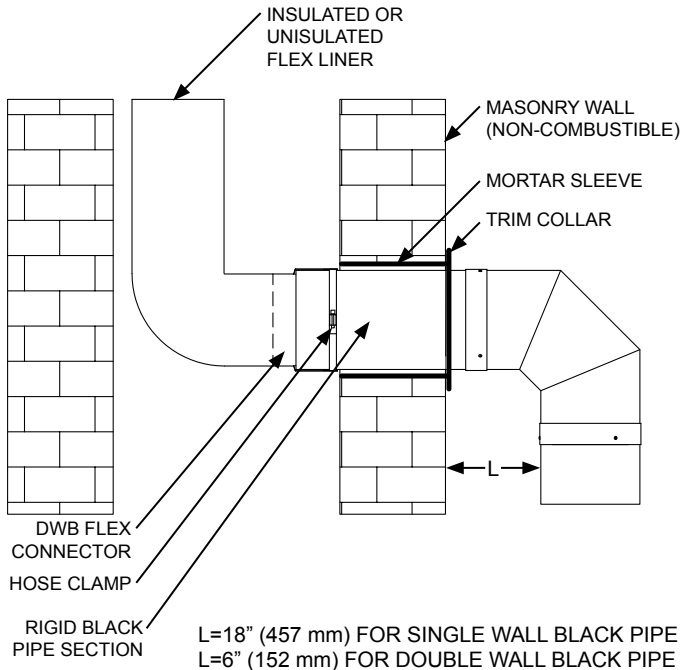

FIG. 14
- Step 5:** Slide Trim Collar over rigid Black Pipe section. Attach rigid pipe to DWB Flex Connector (**be sure flow arrow is pointed in correct direction**) and secure by tightening hose clamp (See FIG. 14).
- NOTE:** Finish connection to appliance making sure to keep minimum "L" inches (mm) clearance to combustibles from wall or ceiling as shown in FIG. 14.